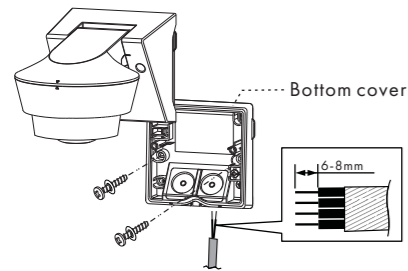

FIG. 7
- 3.4.1.3 Feed the electric cables through rubber gasket (See FIG.5-B) and refer to illustration of FIG.5-A for correct wiring, then fit the bottom cover on the wall or ceiling firmly by two screws (See FIG.7).
3.4.3.2 Feed the electric cables through rubber gasket (See FIG. 5-B) and refer to FIG. 5-A for correct wiring. Then fit the bottom cover on the European standard junction box firmly by two screws (See FIG. 7 to FIG. 14-B).